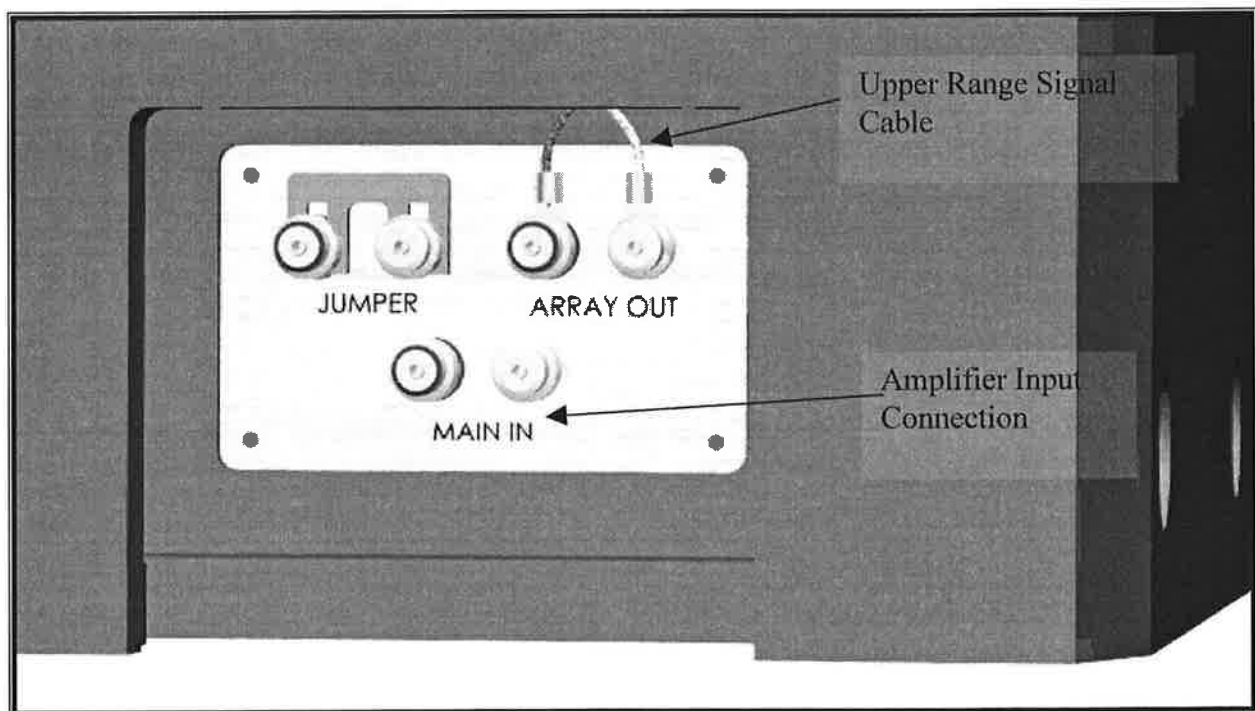

FIGURE 19 MAIN CONNECTOR
- Connect the cable to the "array out" terminals on the connector plate (see Figure 19).